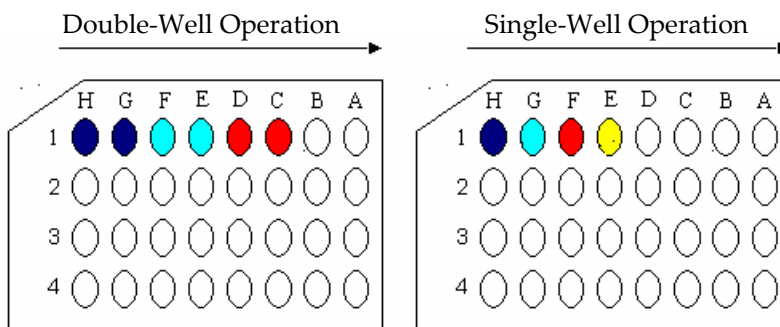

Figure 16.6-A: MagNA Pure LC Sample Tray Loading
- Add 150 µl of each sample to two wells of the sample tray, filling the tray from H1 to A4 (Figure 16.6-A).
- Add 150 µl of each sample to two wells of the sample tray, filling the tray from H1 to A4, or F1 to A4 if running primary rat hepatocytes (Figure 16.6-A).
- Add 300 μ l of sample to one well of the sample tray, filling the tray from H1 to A4 (Figure 16.6-A).